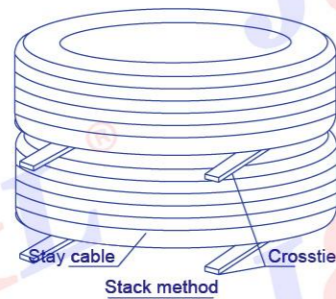

Figure 3
- 2. The stay cable shall be stored in dry place, with crossties on the base and waterproof cloth well covered. The cables shall be placed neatly and maximum 2 coils each layer. See figure 3.